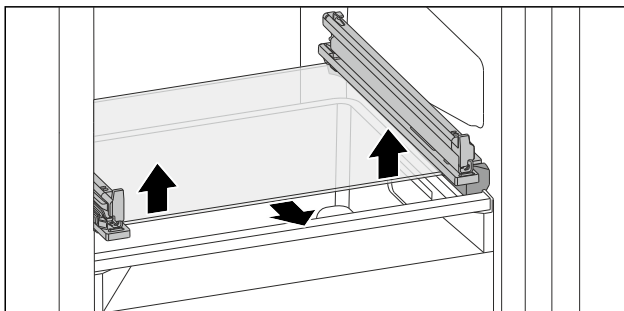

Fig. 73 Tilting drawer glass shelf
- ▶ Push glass shelf upwards from below on both sides. (see Fig. 73)